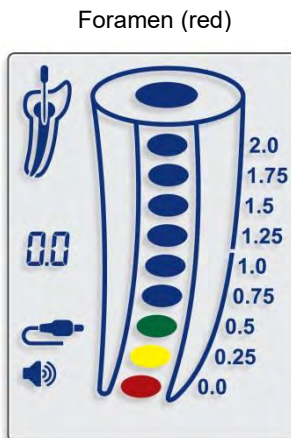

Fig. 10
7.4.12. Reaching the apical foramen (0.0) is indicated by a red color segment inside the root canal image (Fig. 10) and a constant audio tone.